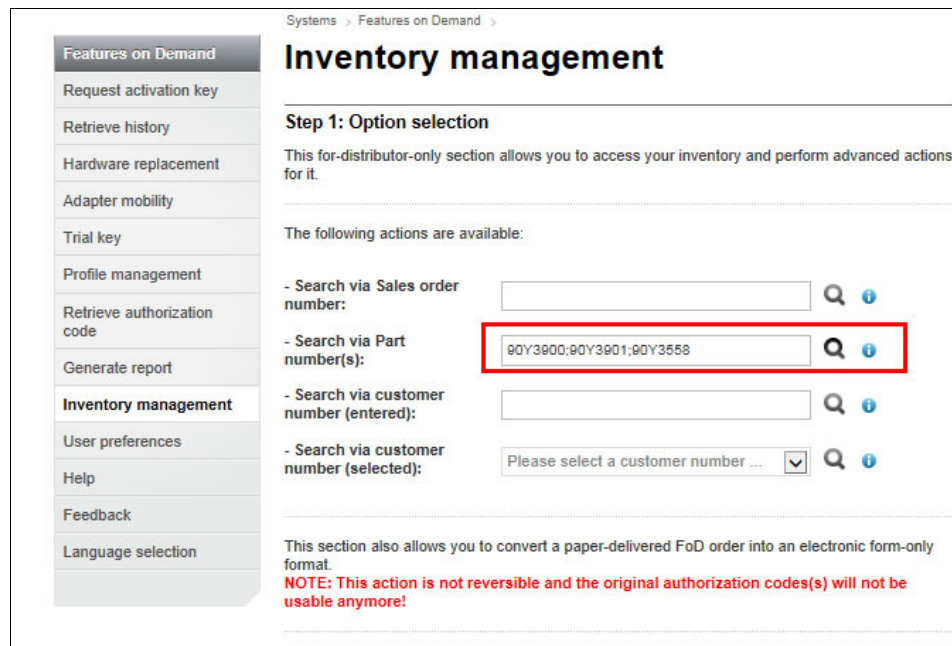

Figure 2-6 Search via FoD part number
1. If you know the FoD part number, select **Inventory Management** on the FoD site, as shown in Figure 2-6.